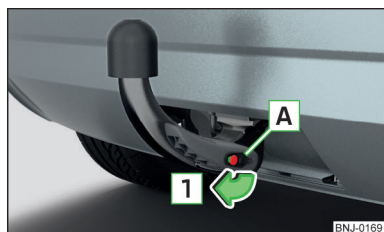

Fig. 158
- Remove the cover **A** from the lock in the direction of the arrow **1** » Fig. 158.